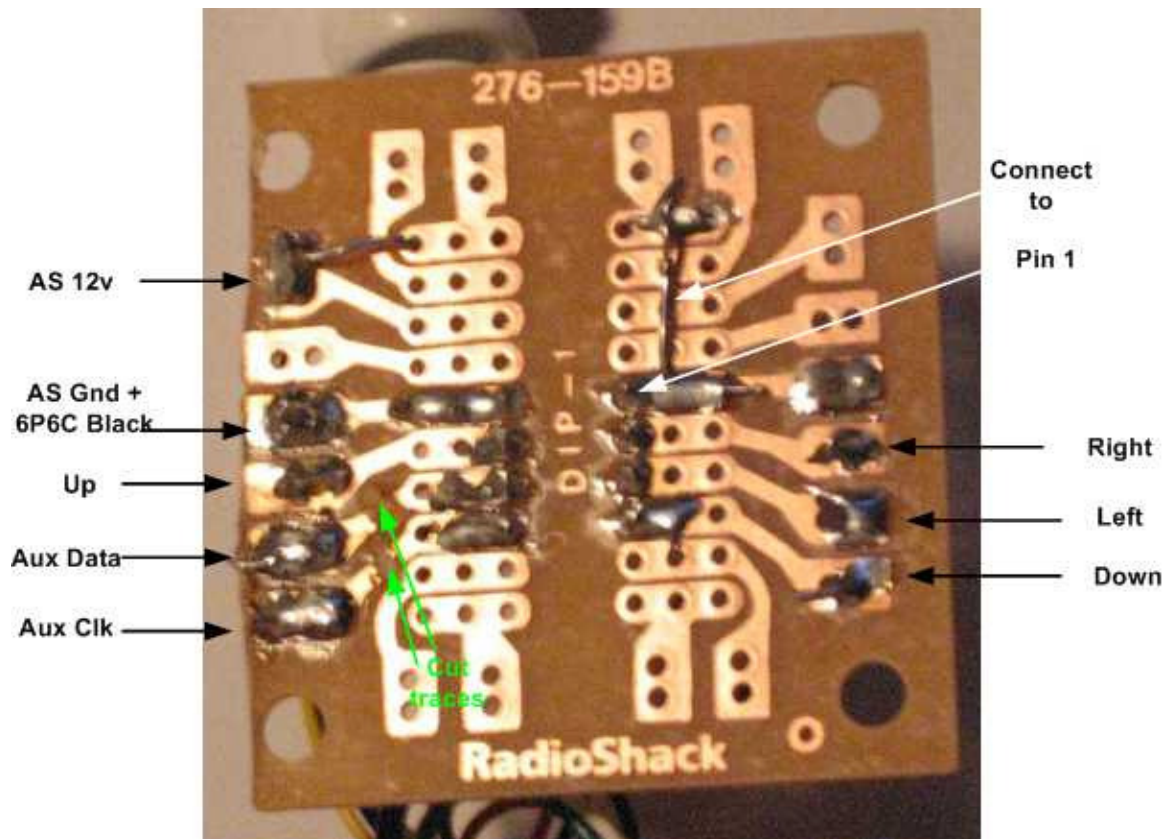

Figure 3: Solder side
7. Bend and solder the 680ohm resistor, do not forget to attach the right side of the resistor to the Vcc pin 1 of the socket or any of the other leads that go to pin 1 (see figure 3).